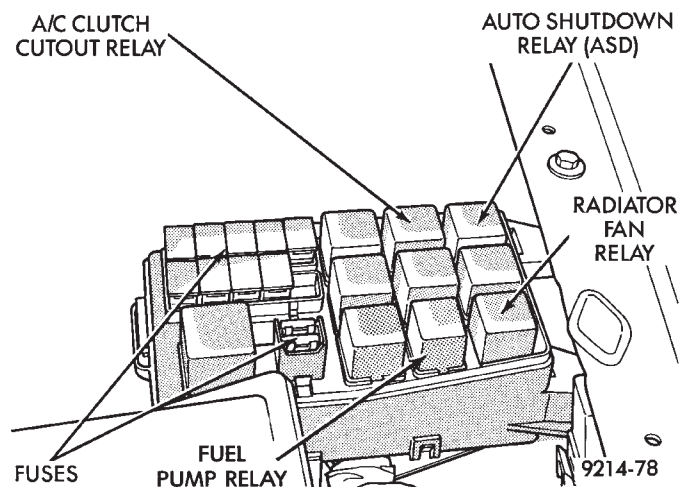
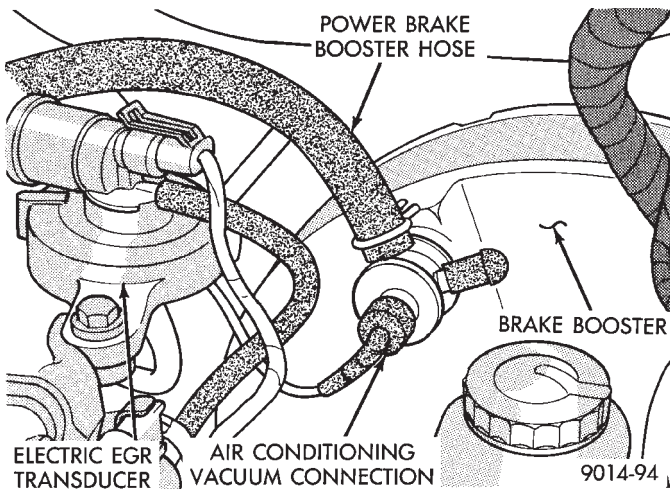

Fig. 16 Power Distribution Center
Fig. 17 Power Brake Booster Hose
(29) Check for full insertion of the relays in the power distribution center (Fig. 16).
(30) Check battery cable connections.
(31) Check the power brake booster hose connection (without Anti-lock Brake Systems) (Fig. 17).